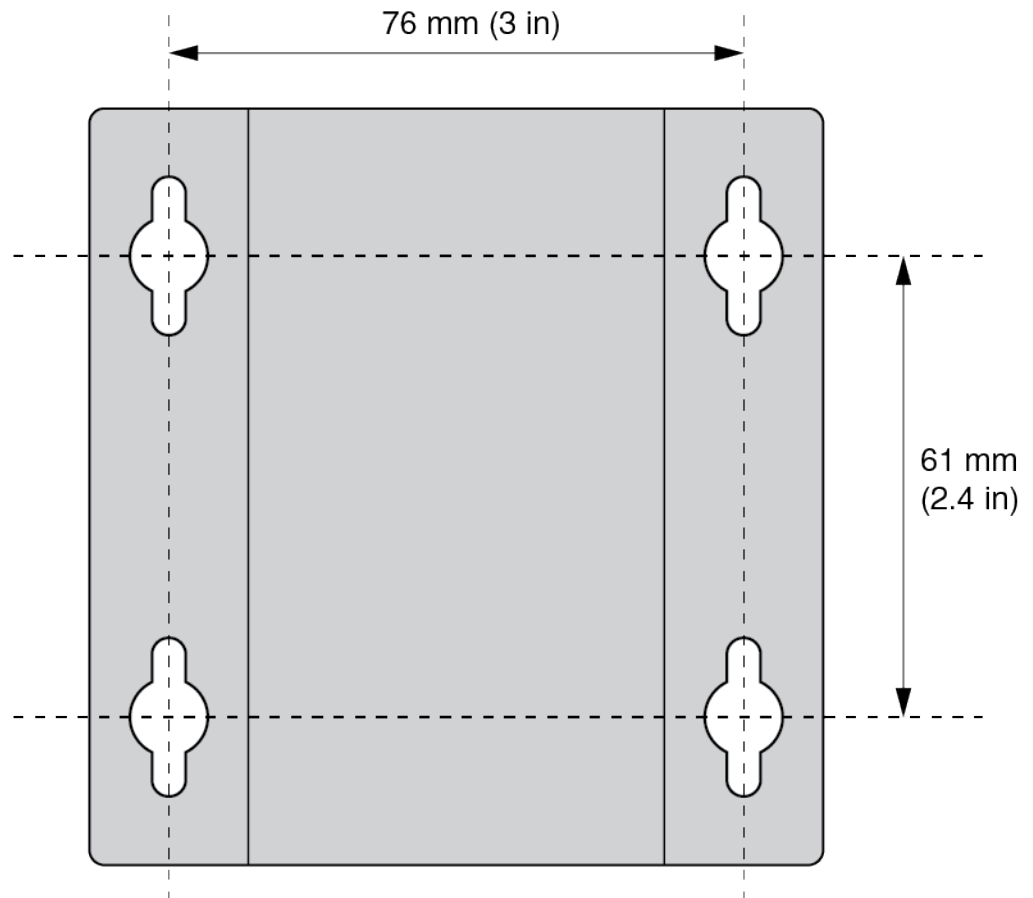

Figure 32. Wall-mount Template
- Print out the template in Figure 32.